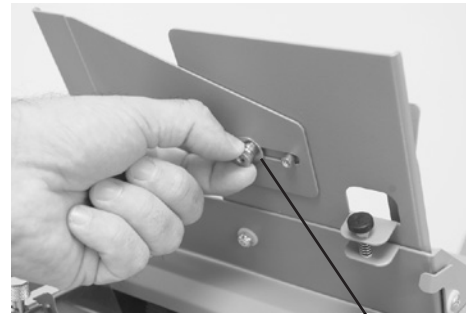

Fig. 9a
1. Adjust the side guides on the multi-sheet feeder for the proper paper size. Loosen the thumb screw, adjust the guides to fit the paper width and re-tighten the thumb-screw (Fig 9a).